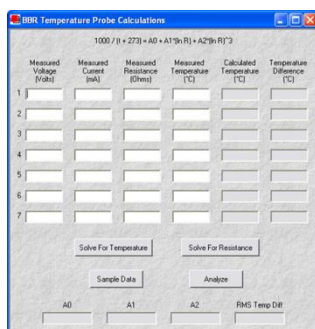

Figure 20: BBR Temperature Calculation Window
The BBR Temperature Probe module is designed to determine and/or verify the temperature probe constants used by the Bending-Beam Rheometer controlling software to maintain the desired test temperature. Refer to Figure 20.
1. Click **Applications**; then **Temperature Probe**; then **BBR** to open the **BBR Temperature Probe Calculations** window as shown in Figure 20.